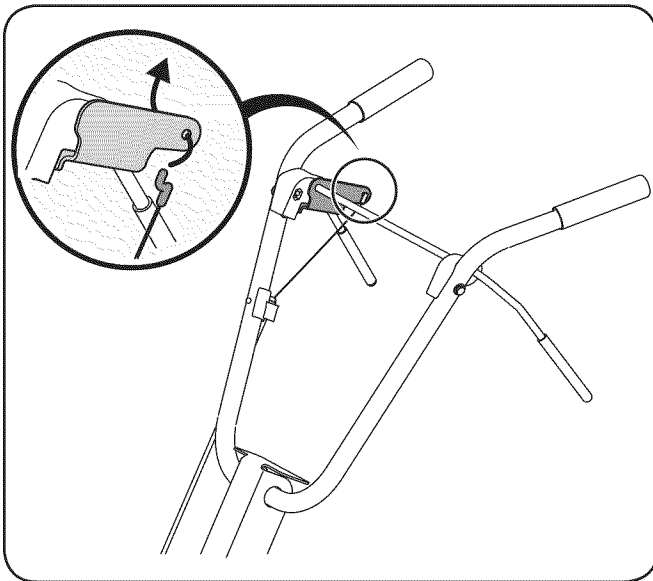

Figure 3-4
6. Insert the Z-fitting on the clutch cable into the hole on the tine clutch control. Hook the "Z" end into the opening from the inside to the outside as shown in Fig. 3-4.